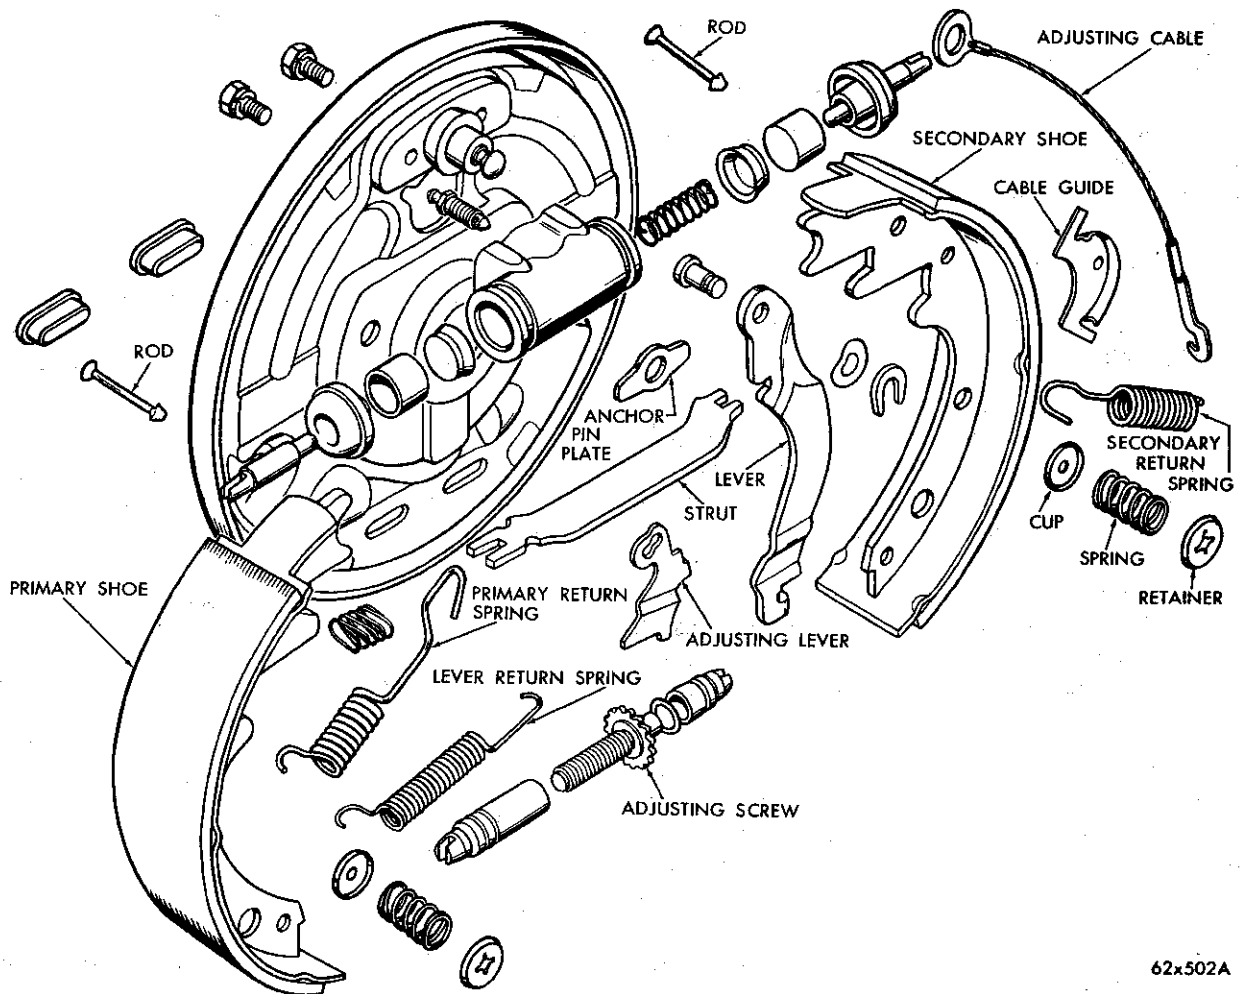
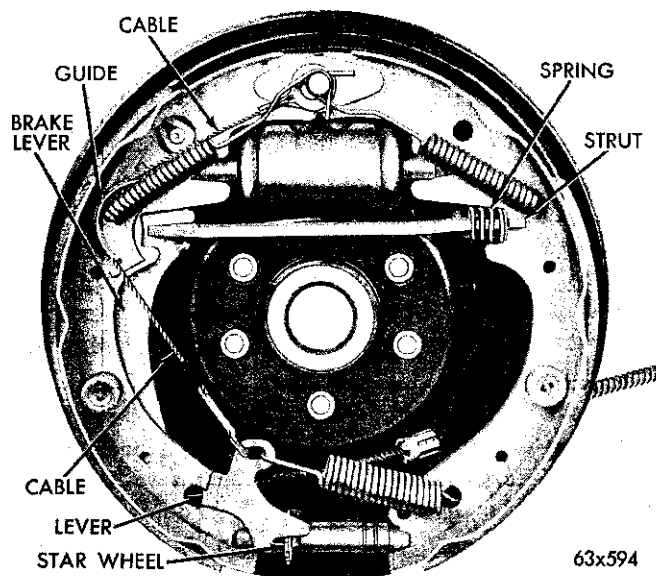

Fig. 2—Rear Brake Assembly (Disassembled)
Fig. 5—Automatic Brake Adjuster—Rear
- (3) Remove the brake shoe retainer, spring and rods (Refer to Fig. 5).
- (4) Remove the anchor pin plate and tilt the brake shoe assembly out from the backing plate.
- (5) Spread the anchor ends of the primary and secondary shoes and remove the parking brake strut and spring.
- (6) Disengage the parking brake cable from the parking brake lever and remove the brake assembly.
- (7) Overlap the anchor ends of the primary and secondary shoes and remove the adjusting screw, adjusting lever, adjusting spring, cable and cable guide.
shoes with the star wheel next to the secondary shoe. (Refer to Fig. 2.) The star adjusting wheels are stamped "R" (right side) and "L" (left side), and indicate their location on the vehicle.
(2) Attach the parking brake lever to the back side of the secondary shoe. (Refer to Fig. 2 and 5.)
(3) Place the secondary and a primary shoe in their relative position on a work bench.
(4) Lubricate the threads of the adjusting screw and install it between the primary and secondary shoes with the star wheel next to the secondary shoe. The star adjusting wheels are stamped "R" (right side) and "L" (left side), and indicate their location on the vehicle.
(5) Overlap the anchor ends of the primary and the secondary brake shoes and install the adjusting spring and lever.
(6) Holding the brake shoes in their relative position and engage the parking brake cable into the parking brake lever.
(7) Install the parking brake strut and spring between the parking brake lever and the primary shoe. (Refer to Fig. 5.)
(8) Place the brake shoes on the backing plate and install the retainer rods, cups, springs and retainers.
(9) Install the anchor pin plate.
(10) Install the "eye" of the adjusting cable over the anchor pin and install the small return spring between the primary shoe and the anchor pin.
(11) Lubricate the groove of the cable guide and install it in the secondary shoe then install the secondary return spring.
(12) Place the adjusting cable in the groove of the cable guide and engage the hook of the cable into the adjusting lever.
(13) Install the brake drum and tighten the axle nut to 145 foot-pounds torque.
(14) Adjust the brakes.